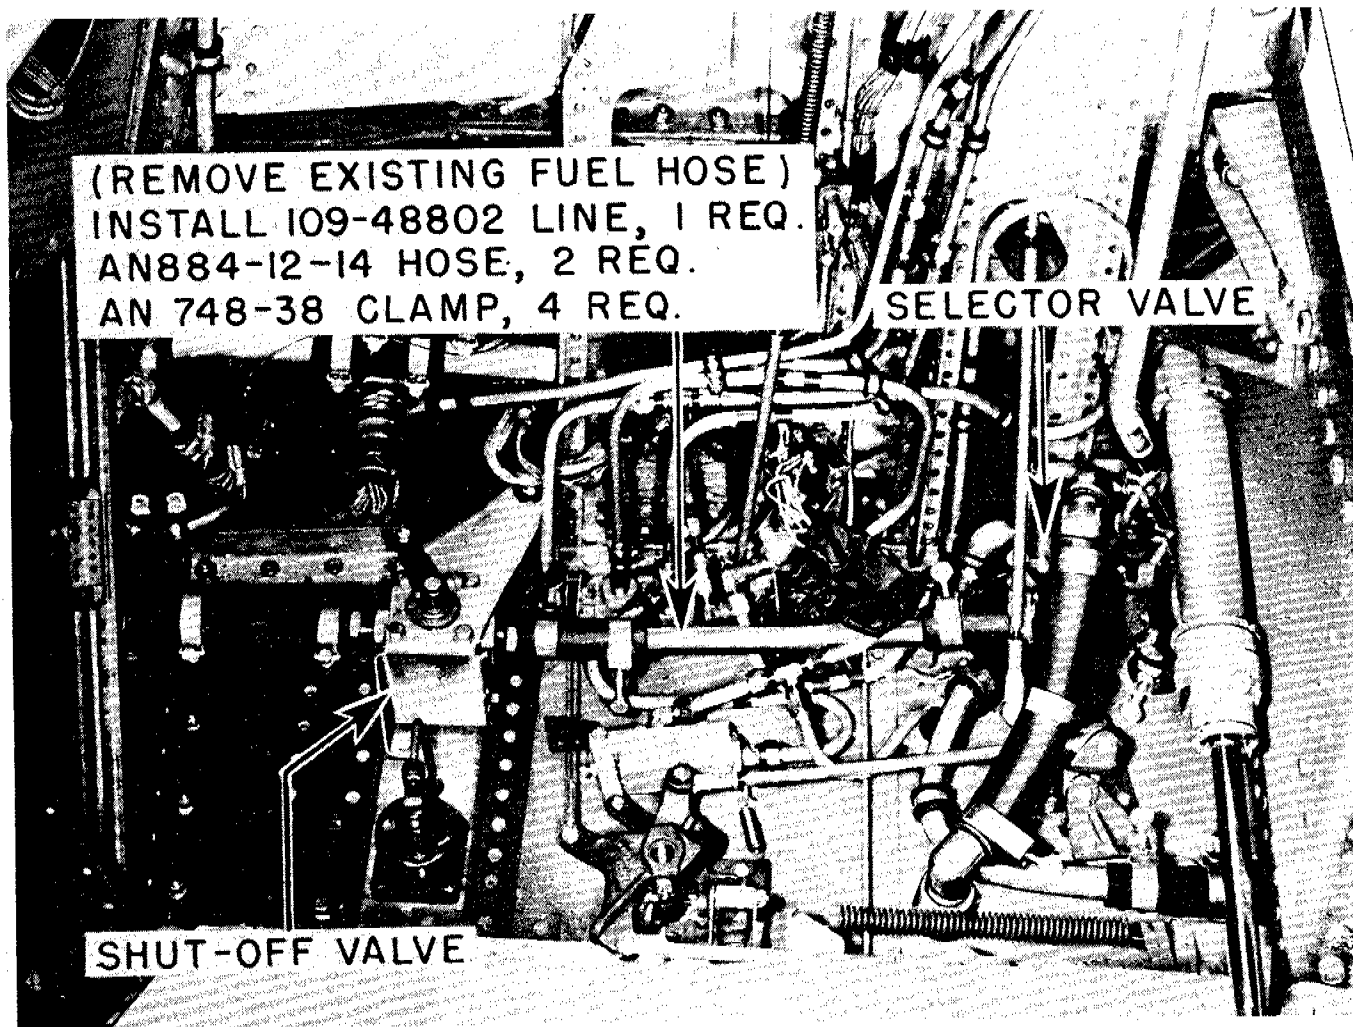

Figure 2 - Left-hand Wheel Well - P-51D Airplanes
(1) Locate the fuel hose, part No. 106-488101-19, in LH wheel well, connected to the fuel shut-off valve and fuel selector valve.
(2) Remove hose, part No. 106-488101-19, by detaching the clamps on each end and the supporting clamp at the timing valve bracket. (See figure 2.)